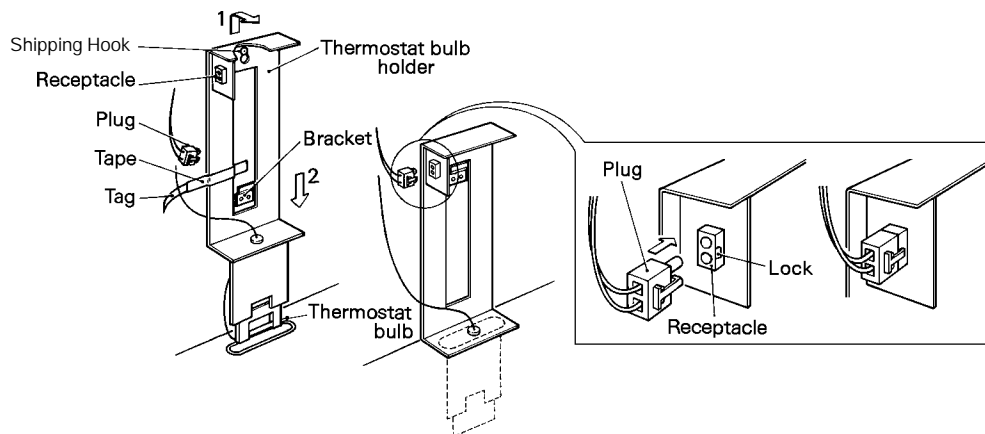

Fig. 3
- 5) Set the Bin Control Thermostat Bulb as follows. See Fig. 3.